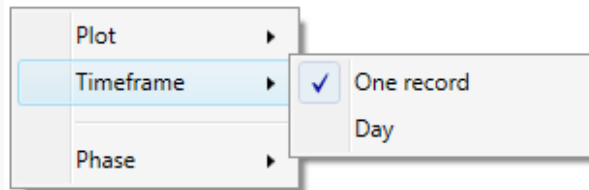

Figure 4-60: Appearance shortcut menu
- The Timeframe option offers a choice of a single PRPD view (one record) or daily view as shown in Figure 4-60.